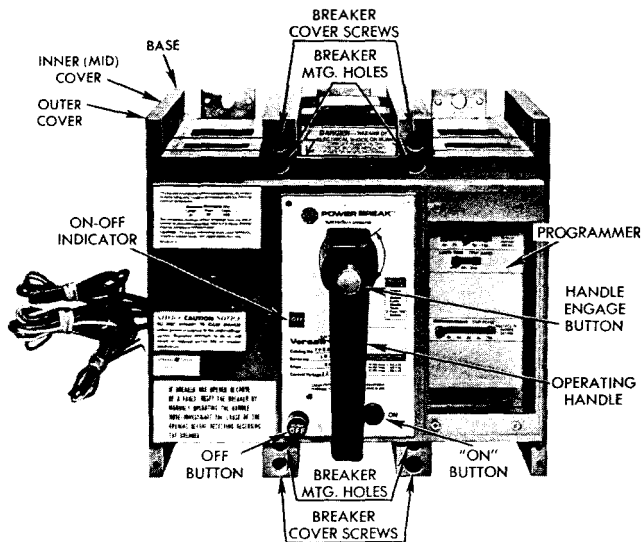

FIG. 18. 800A FRAME ELECTRICAL BREAKER
a. Outer Cover Removal.—See Fig. 18 or 19.
3. Remove four outer cover mounting screws (Fig. 18 & 19).
- d. 1600A-2000A Frames only—Replace two (2) inner cover mounting screws. See Fig. 18. Tighten to 50-60 inch-pounds torque.